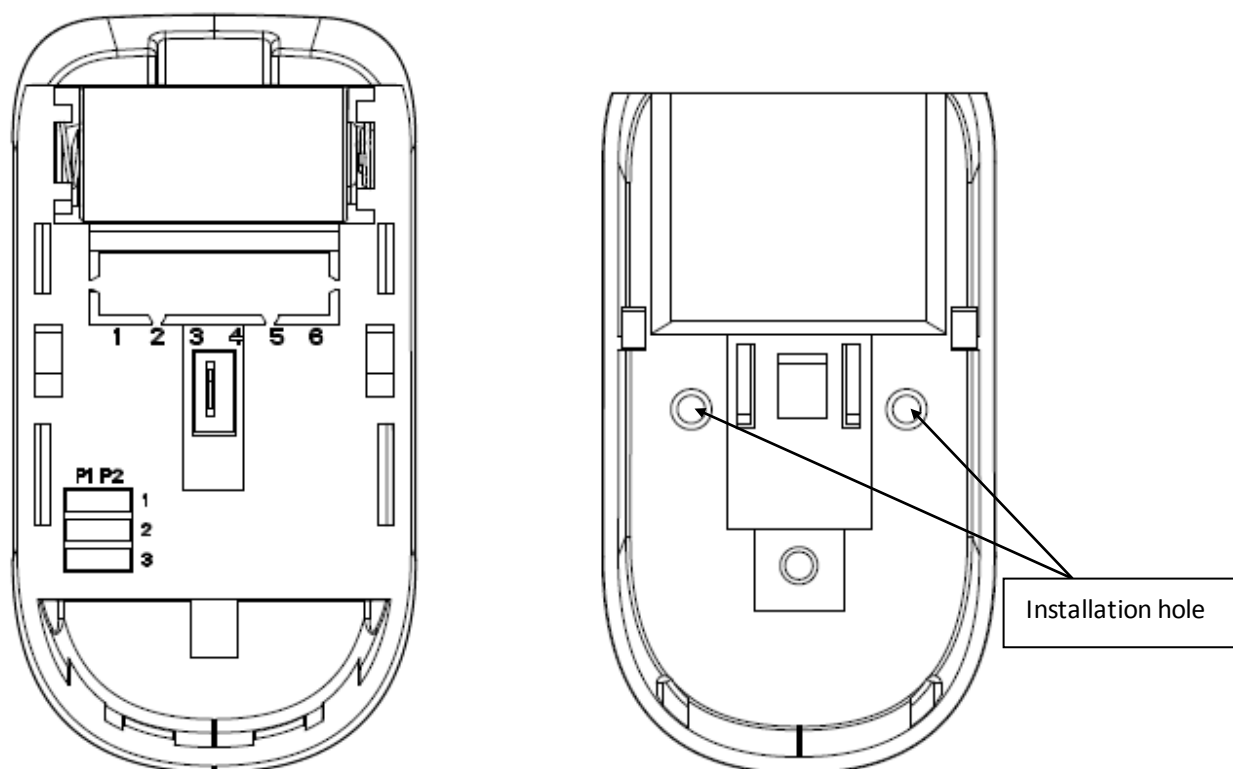

Figure 6- 1
Step 1. Take down bracket which is installed at bottom case of the detector. See Figure 6- 1.